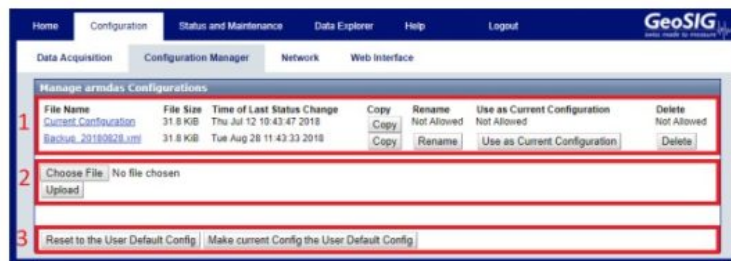

Figure 33: Configuration Manager screen
As described in the previous chapter, the Data Acquisition screen only allows configuring the currently used configuration. The Configuration Manager screen described in this chapter allows managing several configurations, changing the current configuration, uploading a new configuration and so on. As depicted in Figure 33, the screen is divided into three sections:
1. The Configuration List: This list contains all configurations currently available on the main storage media. The Current Configuration is always listed here. This configuration can be copied and downloaded but not renamed, removed or made the current configuration (as it is already the current). As depicted in Figure33, these options become available to other configurations stored on the device (in this example after uploading a file to the device). When pressing Use as Current Configuration it will store this configuration as the Current Configuration. The existing configuration will be overwritten and the instrument restarted. Note that only the Current Configuration can be edited in the Firmware screen. The other configuration files will remain untouched. The Current Configuration can be saved in a file by pressing Copy.